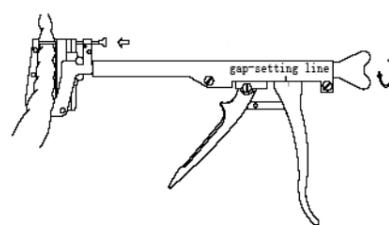

Fig. 3
2. Place the instrument to the position to be stapled. Push the retaining slide pin forward until it is correctly inserted into the retaining hole. Turn the shifting nut clockwise to advance the cartridge until the instrument jaws are closed to hold the tissues to be stapled. Make fine adjustment at the left or right of the gap-setting line depending on the tissue thickness. Be sure to avoid applying any excessive pressure so as to protect the tissues from injury by squeezing. The tissue thickness after compression shall be kept between 1.2~1.8mm. Beyond this range, the staples cannot be formed correctly. (Fig. 3)